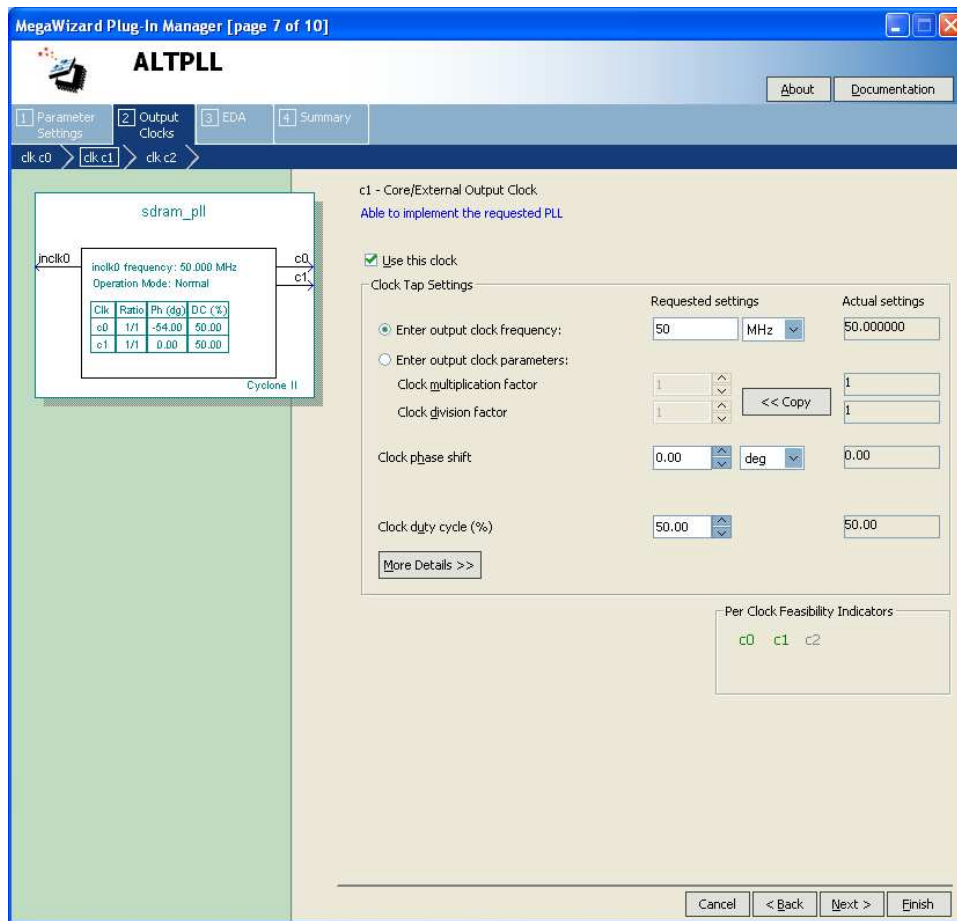

Figure 16. Drive the original clock signal through the PLL.
- The shifted clock signal is called *c0*. Specify that the output clock frequency is 50 MHz. Also, specify that a phase shift of  $-3$  ns is required, as indicated in the figure. Click **Next** to reach the window in figure 16.